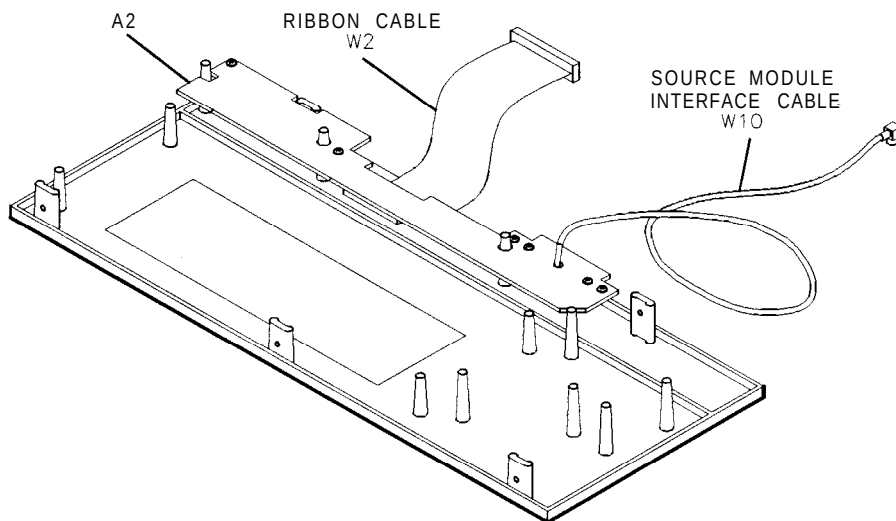

Figure 7-5. Front Panel Coaxial and Ribbon Cable Locations
4. Disconnect coaxial cable W10 at the A10J2 SMB connection on the A10 ALC board assembly. Disconnect ribbon cable W2 at the A22J1 connector on the A22 motherboard assembly. Refer to Figure 7-5.